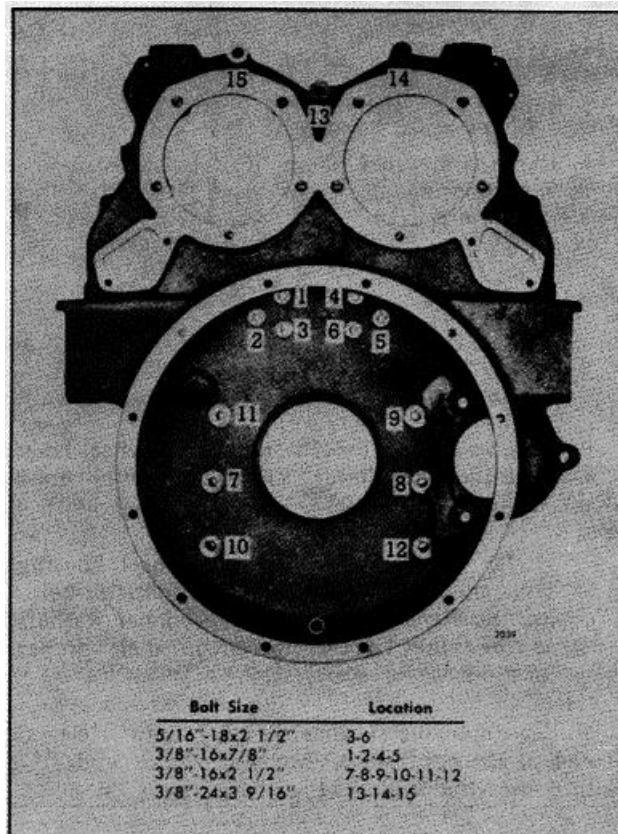

Fig. 3 -Flywheel Housing Bolt Sizes and Tightening Sequence (Operation 1)--In-Line Engine
housing, do not install the six bolts numbered 7 through 12 (Fig. 3) until the clutch housing is installed.
8. On an In-line right hand rotation engine, start at No. 1 and draw the bolts up snug in the sequence shown in Fig. 3.